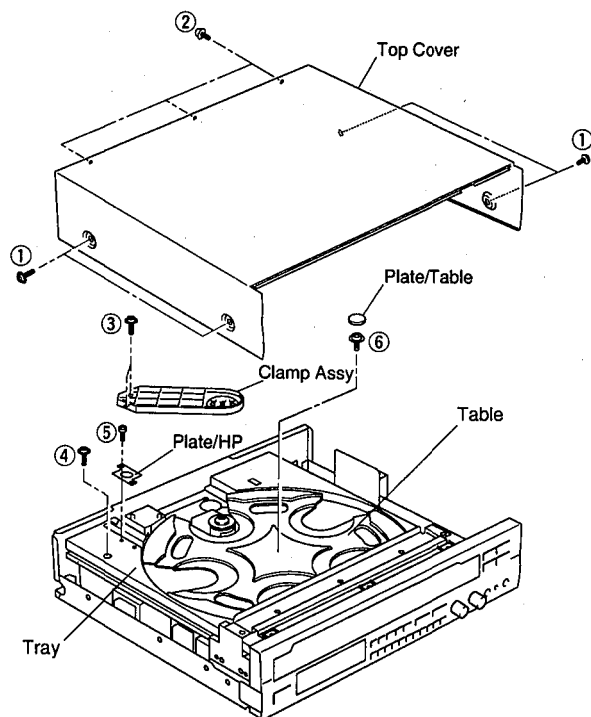

Fig. 1
- a. Remove 4 screws (①) and also 3 screws (②) as shown in Fig. 1.
- a. Remove 2 screws (③) as shown in Fig. 1.
- a. Remove 1 screw (④) as shown in Fig. 1.
- a. Remove 1 screw (⑤) and then remove the Plate/HP as shown in Fig. 1.
b. Remove the Plate/Table as shown in Fig. 1.
c. Remove 1 screw (⑥) and then take off the Table as shown in Fig. 1.